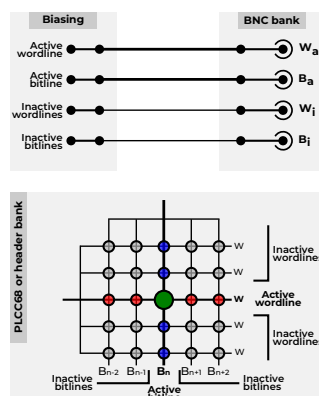

Fig. 7 - External BNC mode
3. **Live: BNC to Local** – in this operating regime the instrument's biasing circuitry is disabled and all voltage/current biasing to target devices is provided through the BNC terminals (Figure 7). The Arc platform only performs routing, i.e. directs bias voltages/currents from the BNCs to the selected device (in PLCC68 package or via header banks).